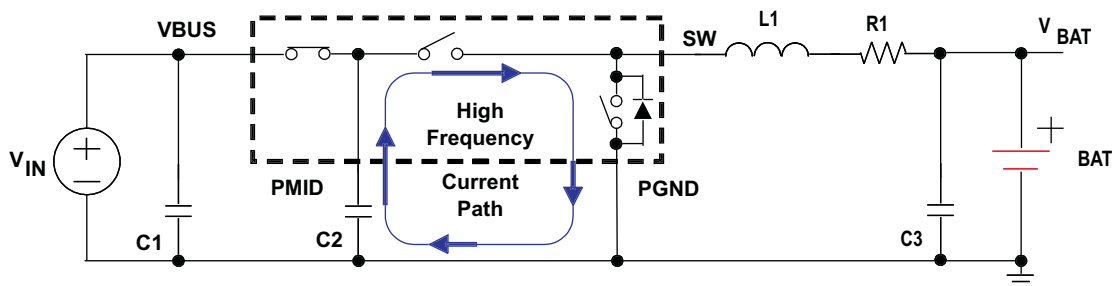

Figure 35. High Frequency Current Path
- To obtain optimal performance, the power input capacitors, connected from input to PGND, should be placed as close as possible to the bq24152. The output inductor should be placed close to the IC and the output capacitor connected between the inductor and PGND of the IC. The intent is to minimize the current path loop area from the SW pin through the LC filter and back to the PGND pin. To prevent high frequency oscillation problems, proper layout to minimize high frequency current path loop is critical (see Figure 35). The sense resistor should be adjacent to the junction of the inductor and output capacitor. Route the sense leads connected across the RSNS back to the IC, close to each other (minimize loop area) or on top of each other on adjacent layers (do not route the sense leads through a high-current path, see Figure 36).